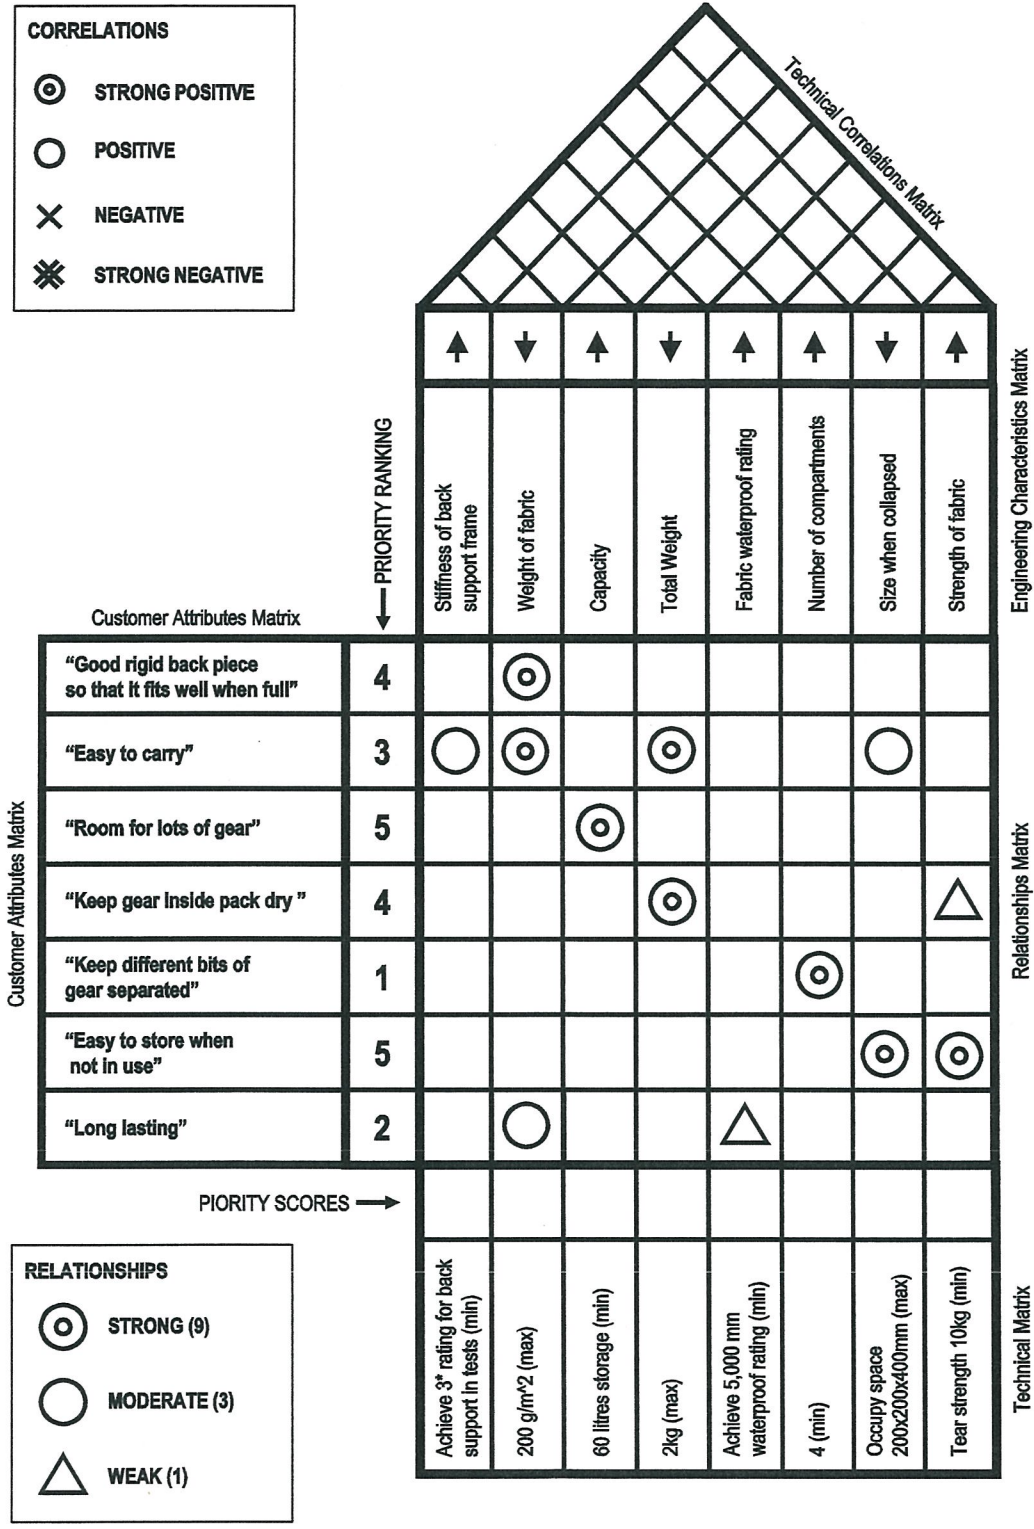

Fig. 1
Attachments: Supplementary sheet – blank copy of Fig. 1.
1 An outdoor sports company is considering the design of a mountaineering backpack (rucksack). Market research and user testing on competitive products has generated a list of customer attributes. Discussions amongst the design team have identified the most relevant engineering characteristics of the product. This information can be seen in the ‘customer attributes matrix’ and ‘engineering characteristics matrix’ of the partially completed *House of Quality* chart shown in Fig. 1.
- (b) The ‘relationships matrix’ of the chart in Fig. 1 is considered to be complete, but a transcription error has occurred by which three of the symbols have been incorrectly placed in cells adjacent to those that were intended. Locate these three errors, and thereby produce a correct version of the ‘relationships matrix’ on the separate sheet supplied. Provide justification for the three corrections you have made. [20%]
A blank copy of Fig 1. is provided on a separate sheet. This should be handed in with your answers.
Supplementary sheet: Blank copy of Fig. 1.